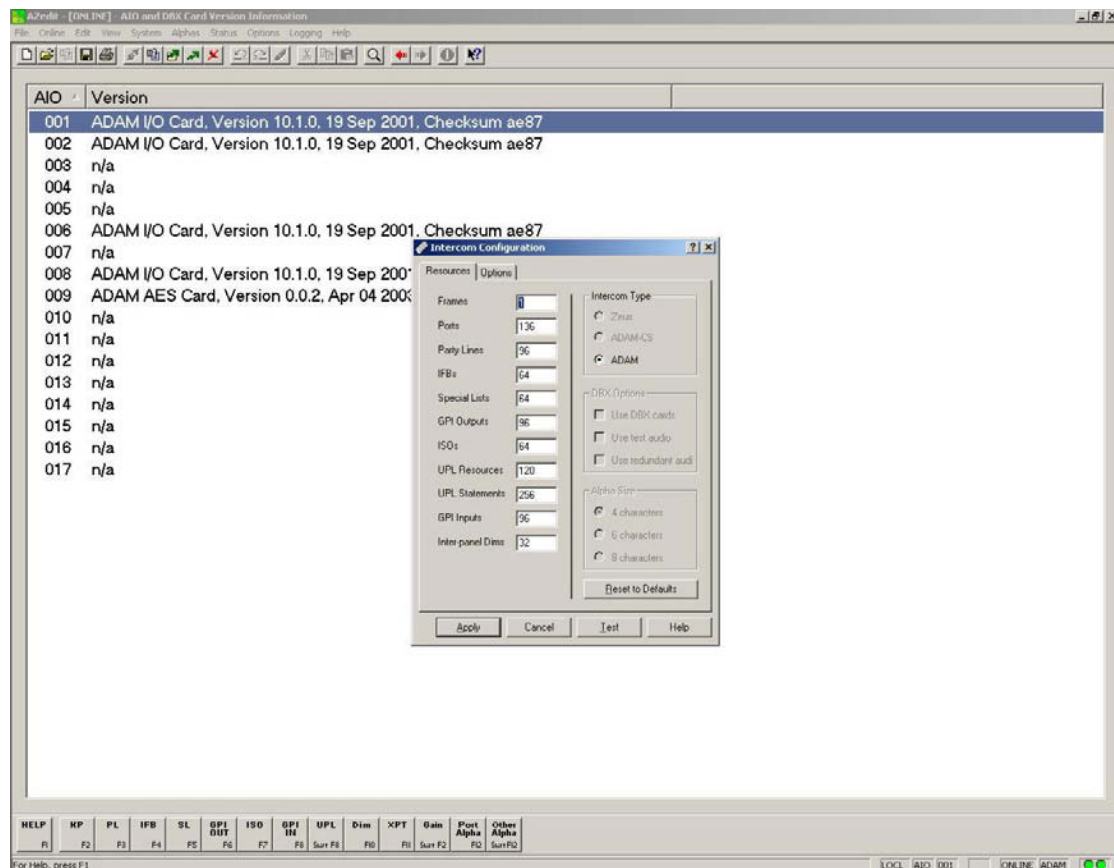

Figure 2. Set up frame size and DBX options (steps 9,19, 20)
21. Resize to new final system size under Options/Intercom Configuration. Default is 3 frame redundant audio system. (fig. 2)
22. Check "use DBX cards" in Options/Intercom Configuration/Resources, if not already detected, always check "use test audio". You can also "use redundant audio" only if it is appropriate for system being set up].(fig. 2) Also check Options page to be sure number of talk levels, remote trunk master (*not to be confused with local trunking*), and other options are set now, otherwise the system will first birthday again if you need to change them later. (fig. 4)